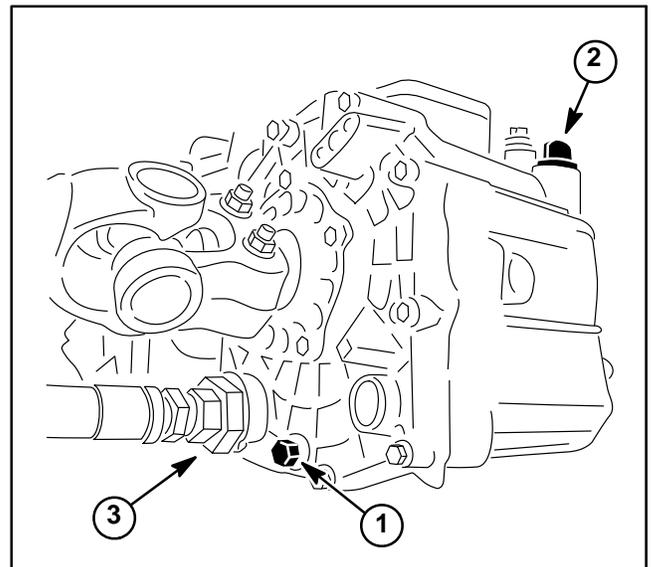

Figure 20
3. Remove drain plug from transaxle (Fig. 20) and drain transaxle into a suitable container.
9. Turn ignition key switch to START; engage starter for ten (10) seconds to prime hydraulic pump. Allow starter to cool and then repeat this step again.
11. Start engine and run at low idle speed for a minimum of two (2) minutes.
12. Increase engine speed to high idle for minimum of one (1) minute under no load.